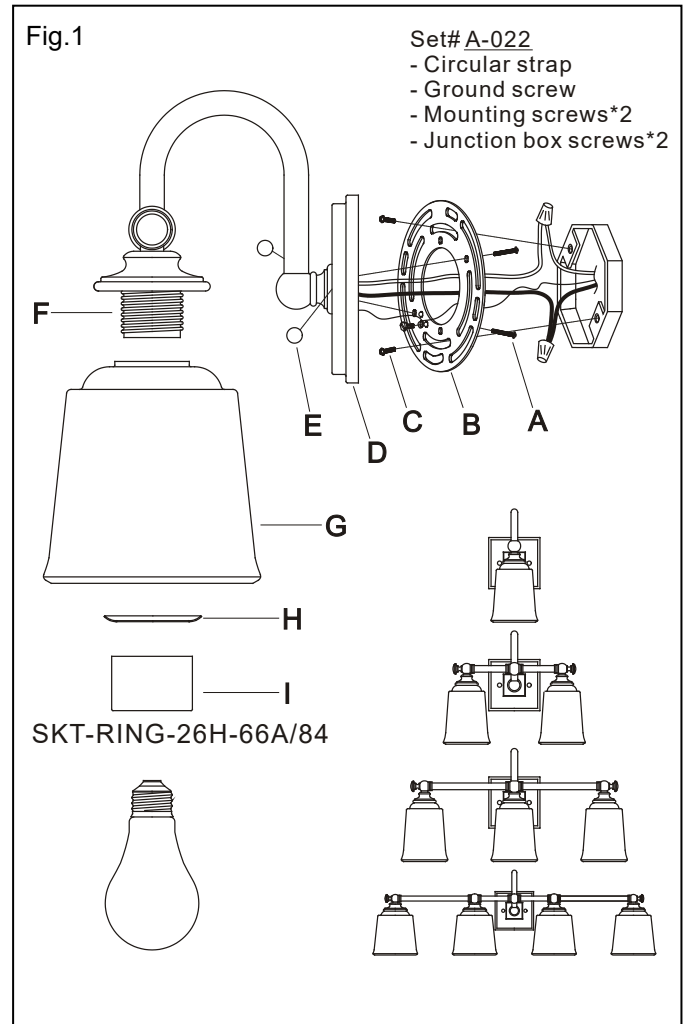

Fig.2
CONNECTING THE WIRES (Fig. 2)
4. Connect the electrical wires as shown in Fig. 2. Making sure all wire connectors are secured. If your outlet box has a ground wire (green or bare copper) connect fixture's ground wire to it. Otherwise, connect fixture's ground wire directly to the circular strap using green screw provided.